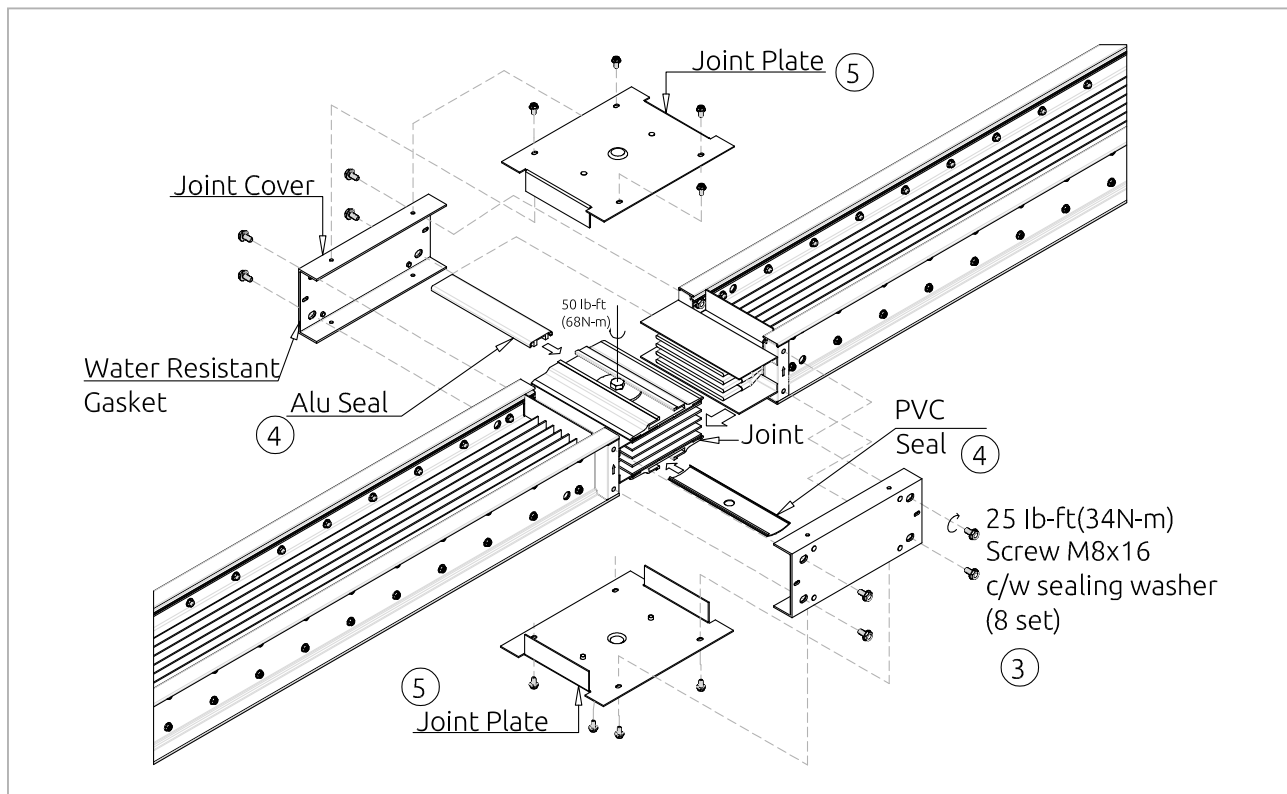

Figure 8.1 Assembly of outdoor busway joint. Correct way to assembly of joint shields is illustrated.
3. Joint two feeder together, and eventually attach joint cover on both sides of the joint with flange bolt and sealing washer as shown in Figure 8.1
4. Attach Alu seal and PVC seal on the top & bottom of joint as shown in Figure 8.1